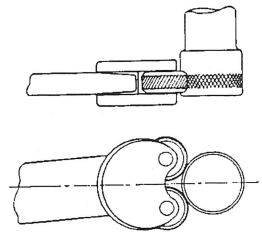

Fig. 12
**KNURLING.** Occasionally it is desired to knurl a handle, etc., on a lathe. For this purpose a special knurling tool (See Fig. 12) is used. Place this tool in the tool post and run it up against the work as near the center as possible. Start on the right end. Force the tool into the work slightly, set the longitudinal feed, and let it feed across the work. Do not remove the tool, but force it into the work a little more and let it feed back to the starting point. Repeat this process until knurling is finished. Use plenty of oil on the tool during the operation.